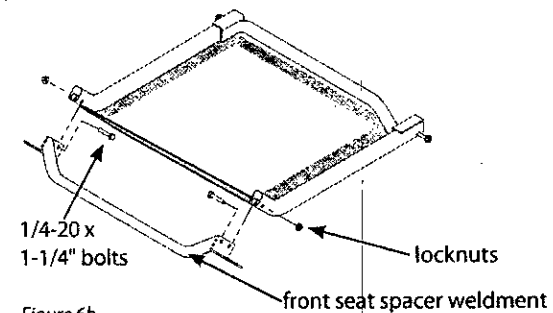
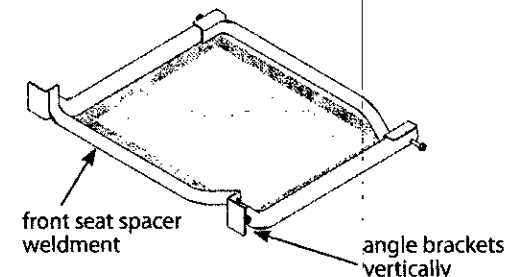
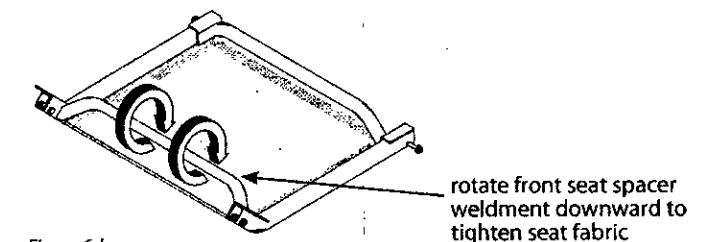

Figure 6b
Figure 6c
Figure 6d
- b. Spread the front (bent end) of fabric rail mounts apart. With the front seat spacer weldment (410112) orientated so the angle brackets are directly up and down, insert (2) provided 1/4-20 x 1-1/4" bolts and temporarily attach locknuts **SEE FIGURE 6b and 6c.** With the front seat spacer weldment (410112) orientated vertically (**SEE FIGURE 6c**), continue by rotating the front seat spacer downward into locking position so the angle bracket on each side is fully cradling the fabric rail mounts. **SEE FIGURE 6d.** Be sure the front seat spacer locks into place. This rotating action is a tight fit by design in order to apply the correct amount of tension on the mesh seat. The use of a rubber mallet is recommended to force the front seat spacer into position. **You must now securely tighten the (2) 1/4-20 x 1-1/4" bolts and locknuts.**